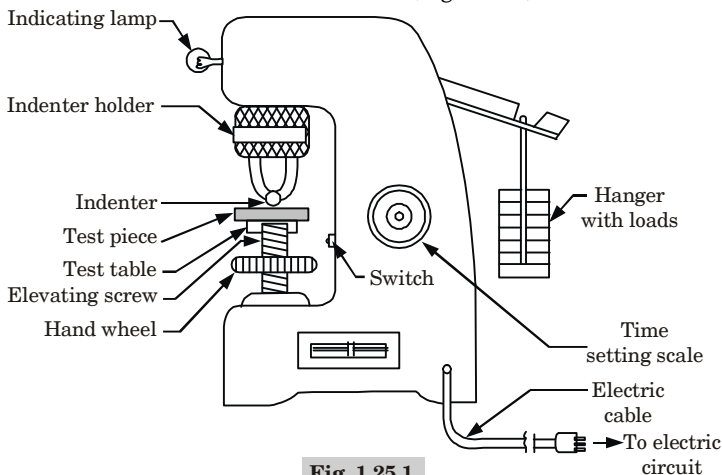

Fig. 1.25.1.
3. A Brinell hardness tester is shown in (Fig. 1.25.1).